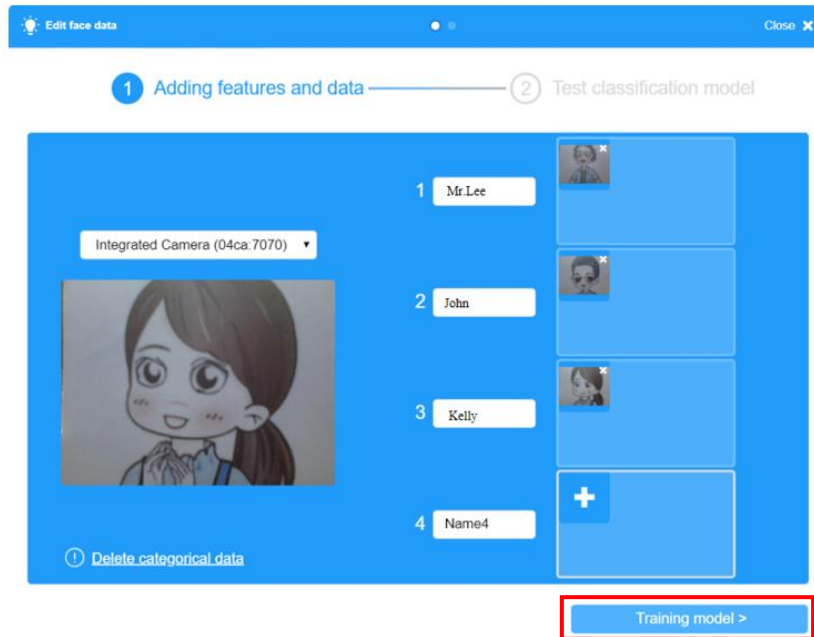

Figure 5.4 Training the facial recognition model
Step 7: Train the model, as shown in Figure 5.4.